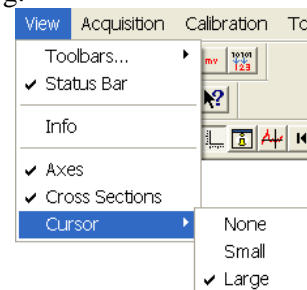

Figure 99. Selecting the Large Cursor
4. Click on the  (**Autoscale**) button at the bottom of the image window. Then select the large cursor by clicking on **Cursor** on the **View** menu and then on **Large** as shown in Figure 99.